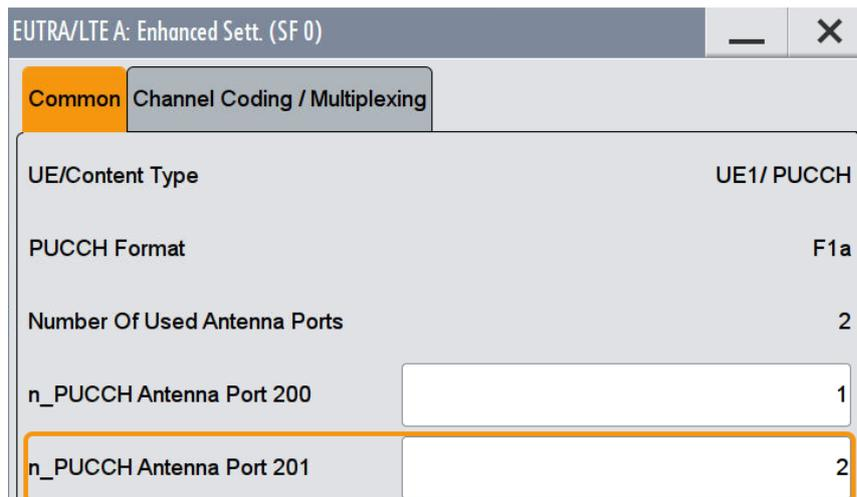

Fig. 3-148: Set the parameters n_PUCCH to 1 and 2
11. Set the resource index **n_PUCCH** to 1 and 2. (Fig. 3-148)